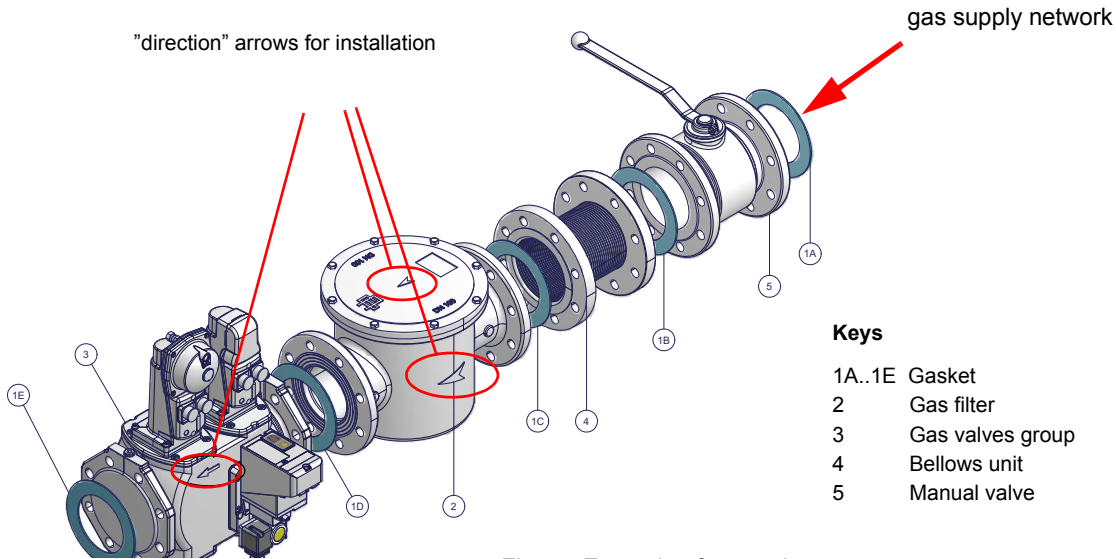

Fig. 5 - Example of gas train
- 1-b) in case of flanged joints: place a gasket (no. 1A..1E - Fig. 5) between the elements
ATTENTION: once the gas train is mounted according to the diagram on Fig. 5, the gas proving test must be performed, according to the procedure set by the laws in force.
**ATTENTION:** once the gas train is mounted according to the diagram (Fig. 5), the gas proving test must be performed, according to the procedure set by the laws in force.